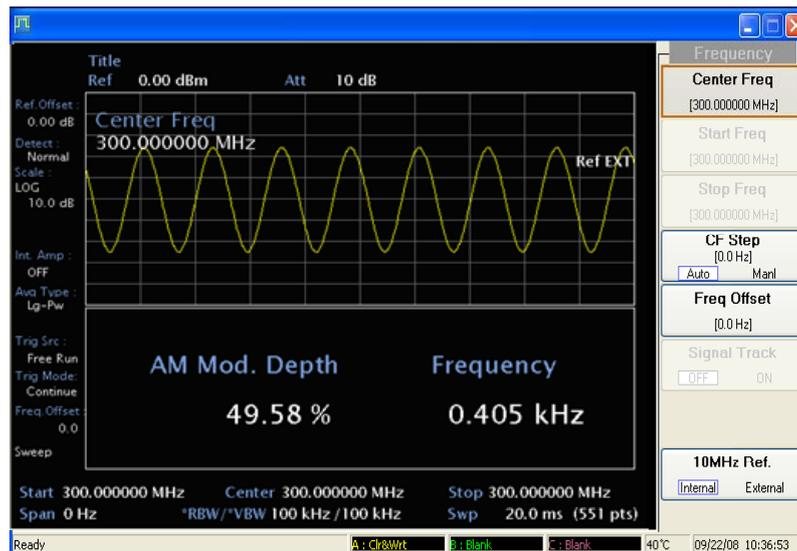

Fig. A-22 Measuring modulation using AM demodulation function
- 4 To demodulate the AM, press [AUX], [AM Demod. ON]. See Fig. A-22.